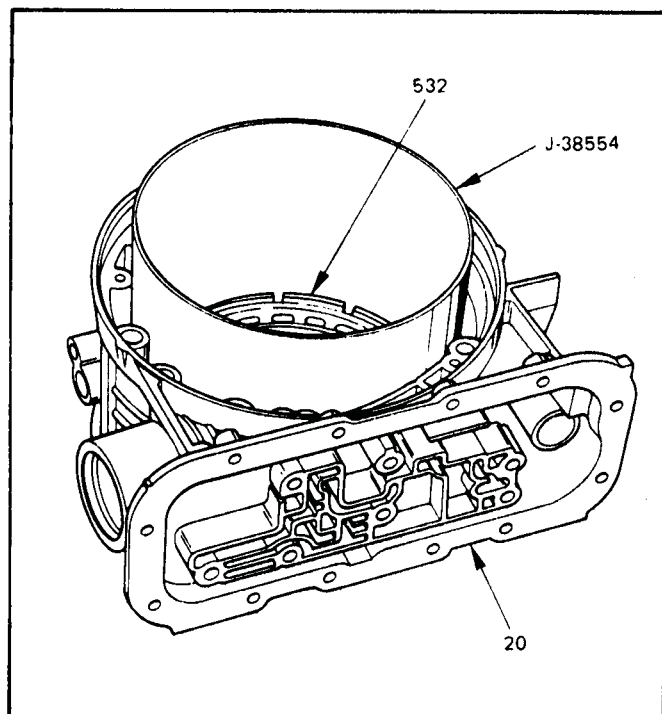

Figure 62
25. Install seal protector J-38554 into the adapter case, and install fourth clutch piston, as shown in Figure 62.